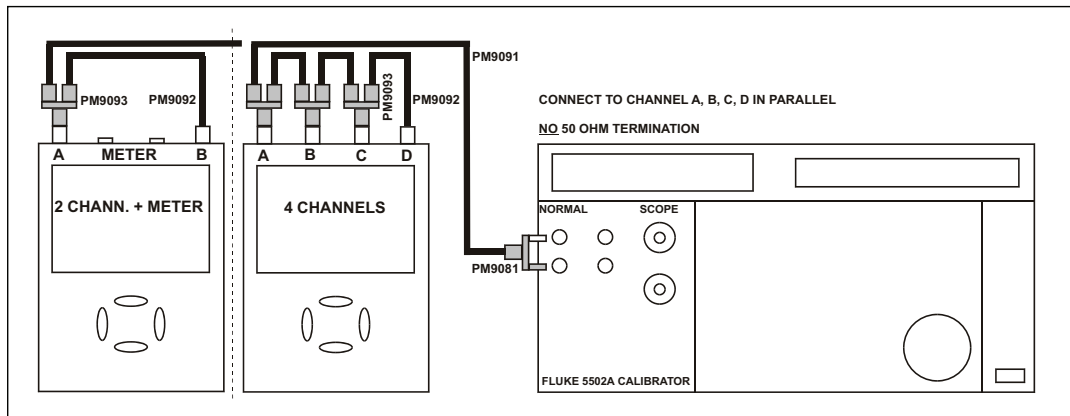

Figure 5-8. Test Tool Input AB to 5502A Normal Output
2. Connect Ch. A and B of the Test Tool to the 5502A NORMAL output as shown in Figure 5-8.